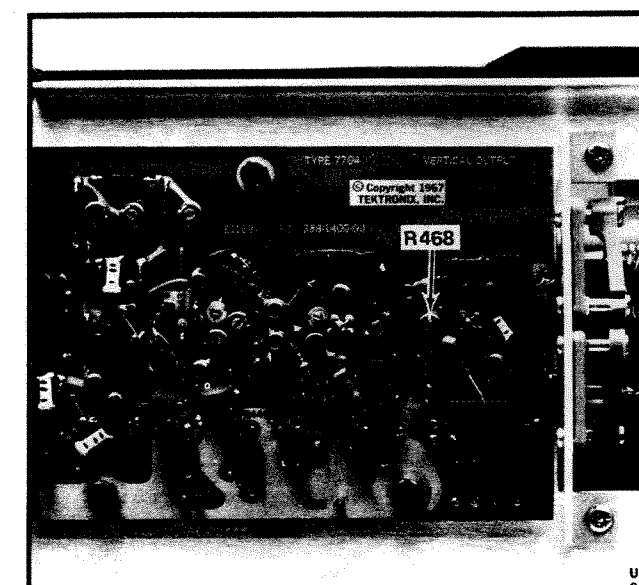
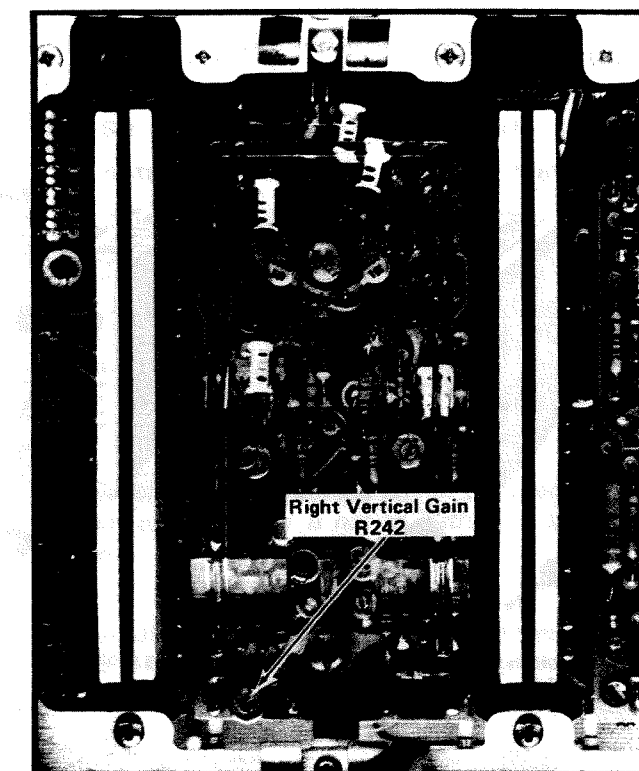

Fig. 5-10. Location of Vertical Output Amplifier Gain control R468.
Fig. 5-11. Location of Right Vertical Amplifier Gain control R242.
e. ADJUST—Vertical Output Amplifier Gain control R468 (see Fig. 5-10) for exactly 6 divisions of deflection between the second and the sixth traces.
①
d. ADJUST—Right Vertical Amplifier Gain adjustment R242 (see Fig. 5-11) to match the gain of the Right Vertical to the gain of the Left Vertical within 1% (0.06 division).